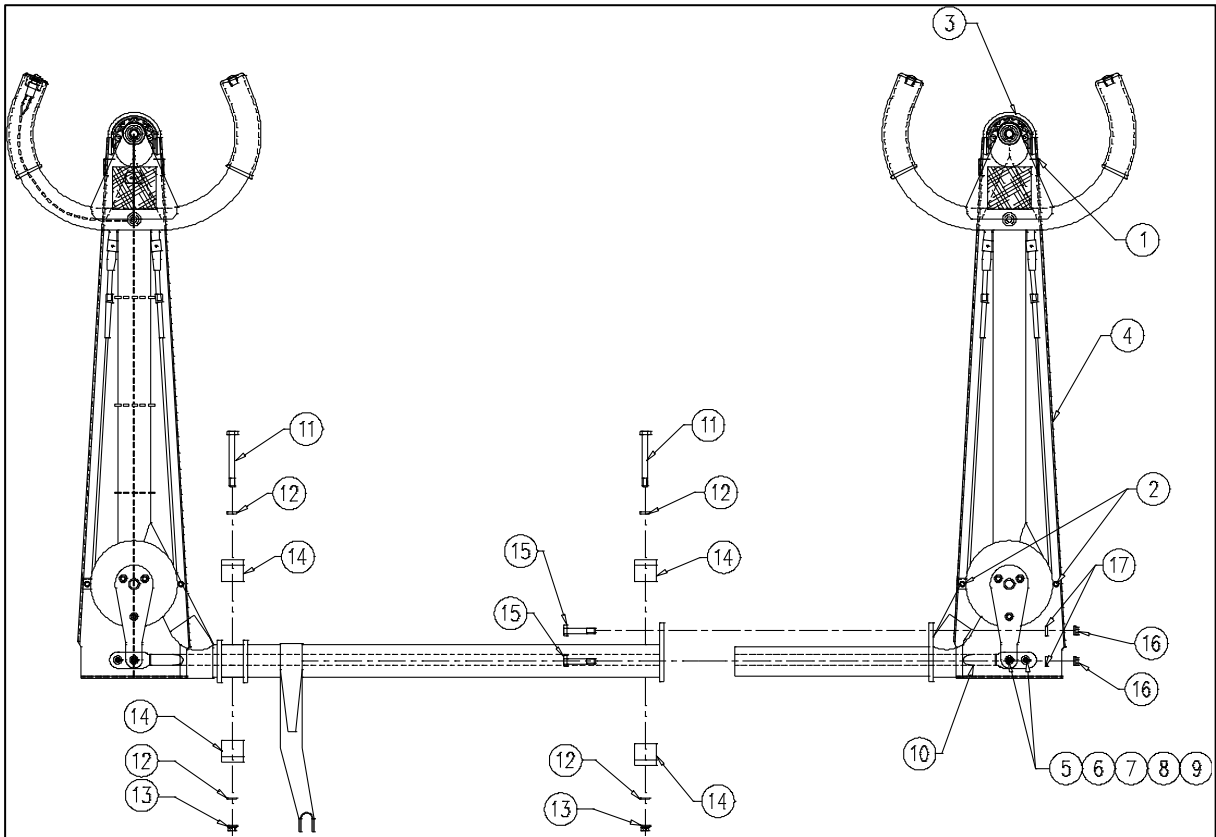
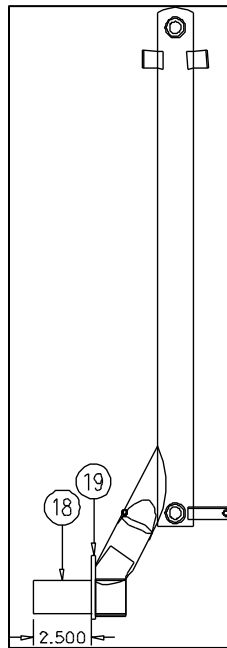

Figure 1 – Dual Control Column Removal
Figure 2 – Co-pilot torque tube modified dimension
The procedure contained herein shall be used together with Figure 1 and Figure 2.
4. Loosen and remove the Bolts (11), Washers (12) and Nuts (13) and remove the four Half Bearing Blocks (14);
5. Loosen and remove the Bolts (15), Nuts (16) and Washers (17);
8. Measure the co-pilot torque tube (18) from the joining flange (19) up to 2.5 inches and then cut the remaining tube as per indicated in Figure 2;
11. Re-install the four Half Bearing Blocks (14) by using the original hardware and torqueing the Bolts (11) to 70 in.lb;
13. Re-install the Dual Control Aileron Link Rod (10) to the right hand aileron operating cable by using original hardware;